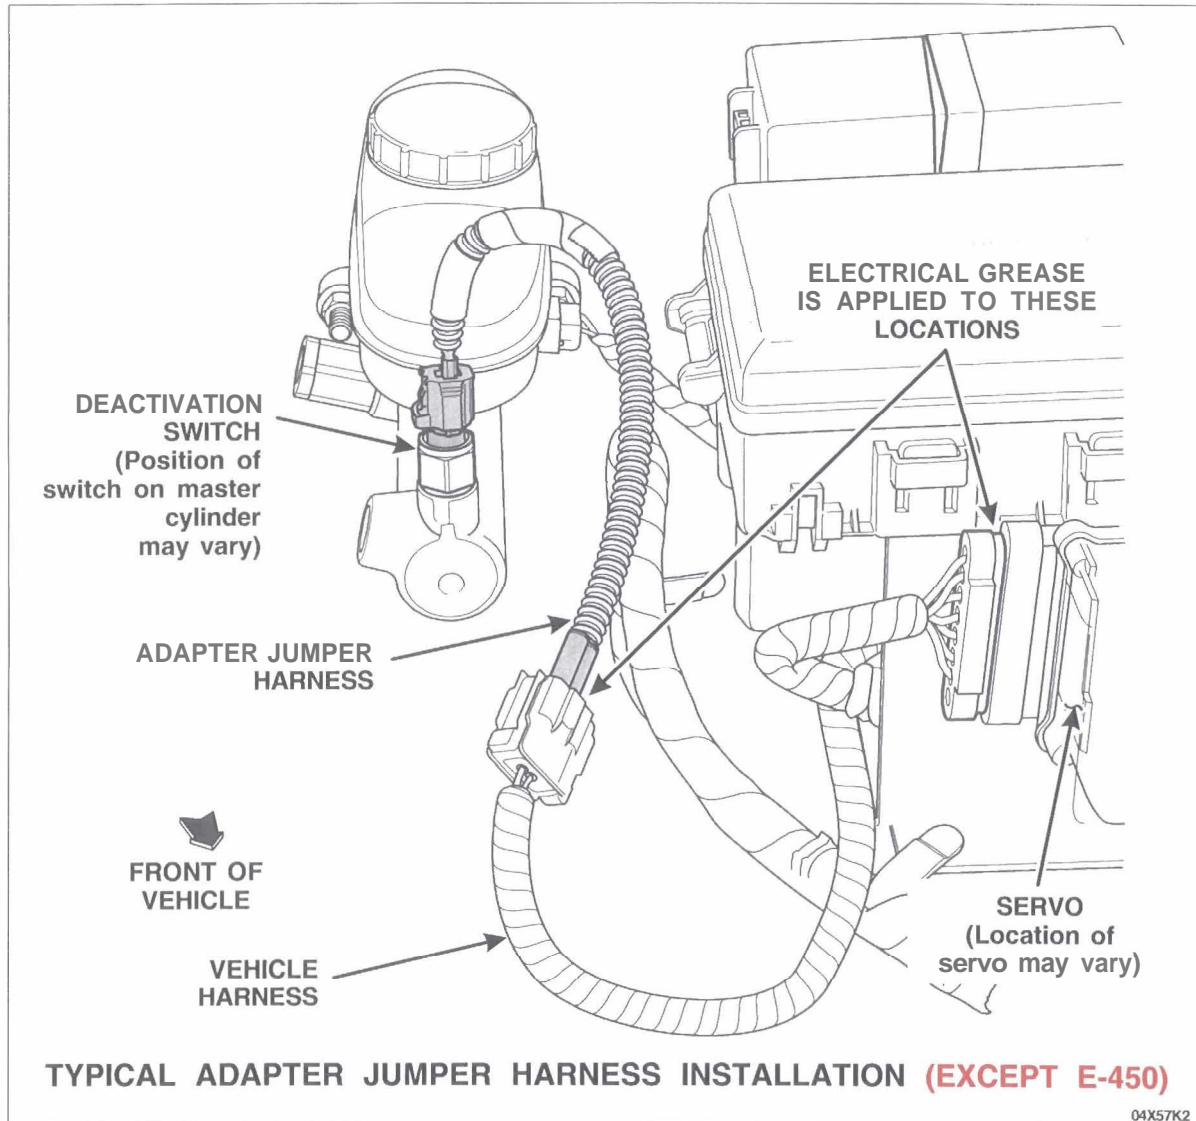

FIGURE 8
7. Install the adapter jumper harness by connecting it to both the deactivation switch and the vehicle harness. Using the provided tie strap, secure the jumper harness to a nearby component such as the speed control cable or another wire harness. See Figures 8 and 9.